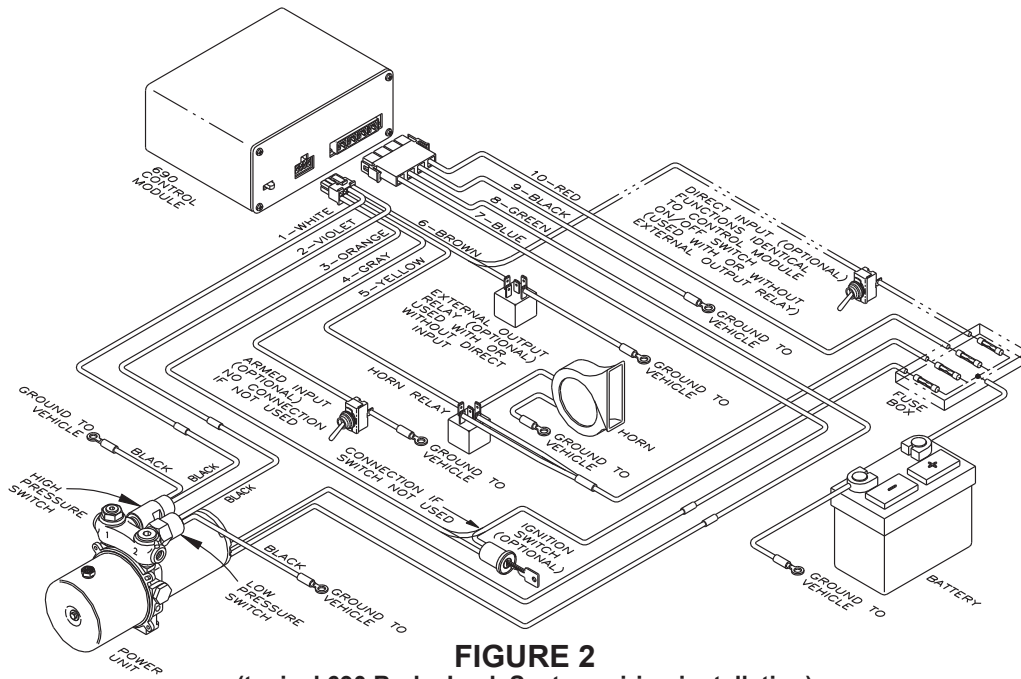

FIGURE 2
- The 691 System is not connected through the ignition switch as was the 690 System. The orange wire shown in Figure 2 must be capped or removed.
- Use Figures 2 and 3 on page 2 to match up the wire colors from the old wire harness to the new wire harness. Splice the new harness wires to the old harness wires. When making connections, soldering and sealing with adhesive heat shrink is the recommended method. All wires that are not used must be sealed and insulated to keep from shorting to each other or ground. **NOTE: Some later model 690 Power Units used connectors on the wires. These can be connected directly to the new wire harness connectors.**